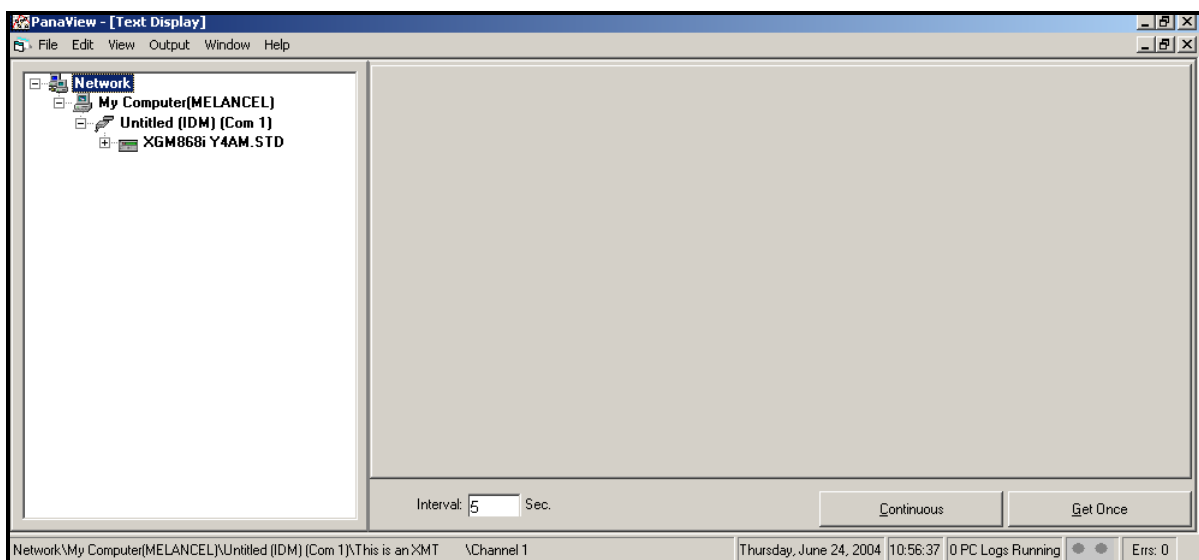

Figure 2-2: Text Display Window
3. Using the *Window* menu, arrange the open windows in the desired format. For this discussion, Figure 2-2 below shows the *Text Display* window in its maximized (full-screen) size.
Note: Figure 2-2 has been compressed both vertically and horizontally for improved clarity.
5. Before actual data values can be displayed in the text pane, activate one of the following data collection modes (refer to Figure 2-2):